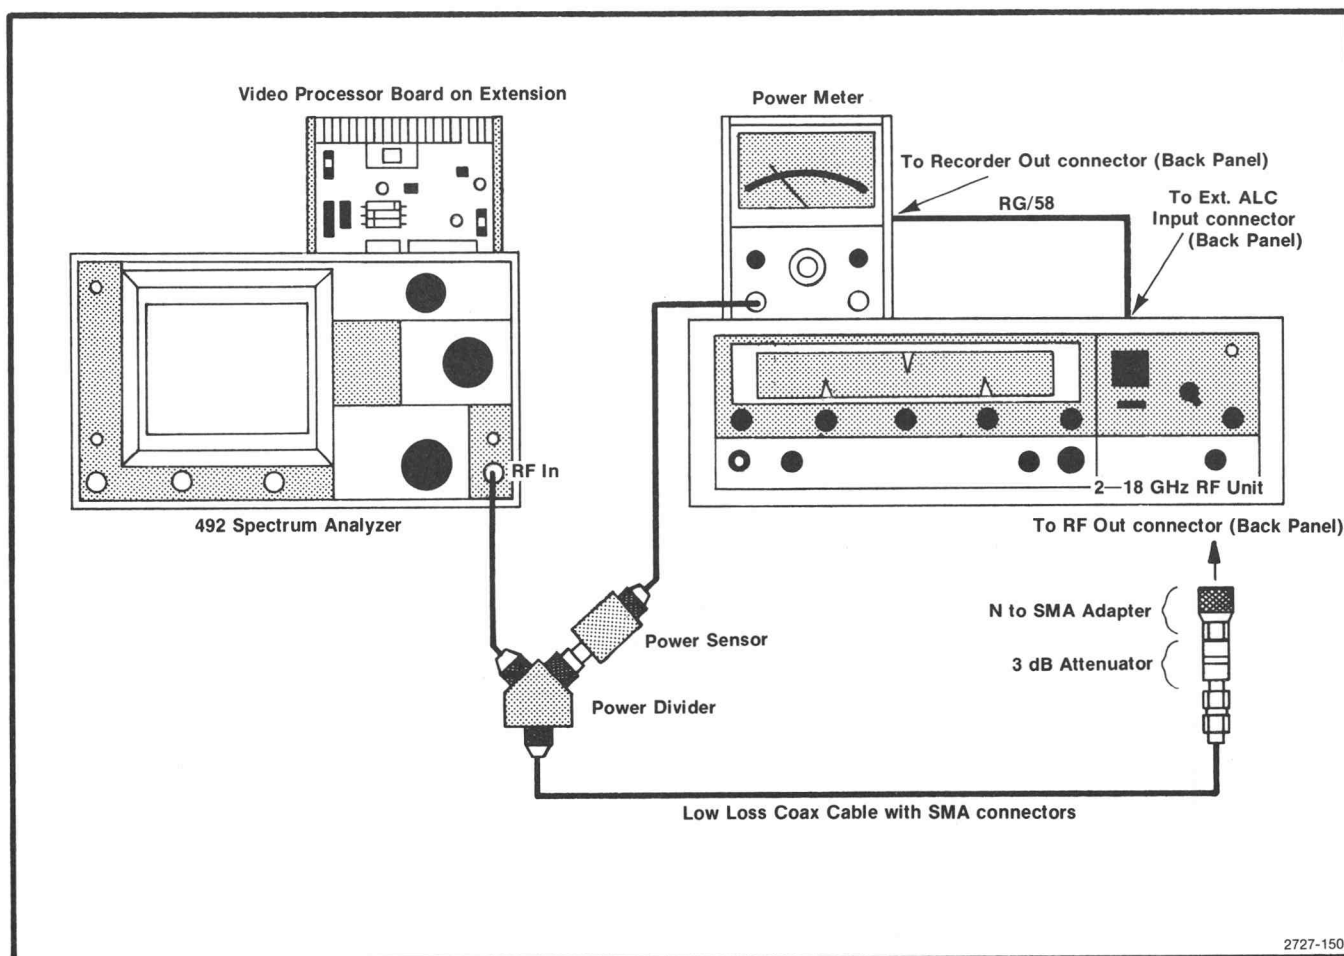

Fig. 3-35. Test equipment setup for adjusting baseline leveling.
a. Test equipment set-up is shown in Fig. 3-35. The output of the sweep generator is applied through a 3 dB attenuator and high performance coax cable to a power divider. Connect one output of the power divider directly to the RF INPUT of the 492 and the other to the sensor for the power meter. Switch the RF plug-in ALC to MTR position and connect a coaxial cable between Recorder Output of the power meter and the Ext ALC Input of the 2—15 GHz plug-in unit on the sweeper. Set the Power Level to approximately -10 dBm then adjust the Gain on the unit for stable operation (output stops oscillating).